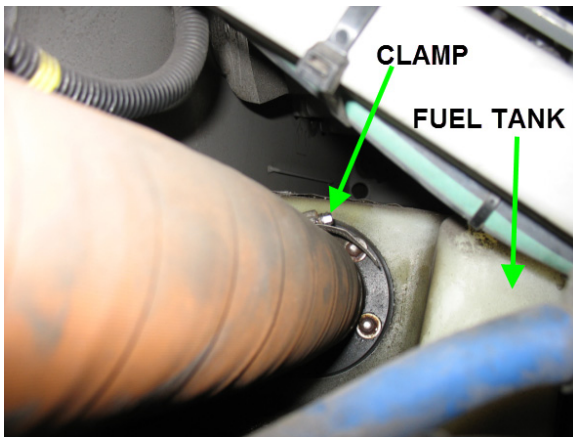
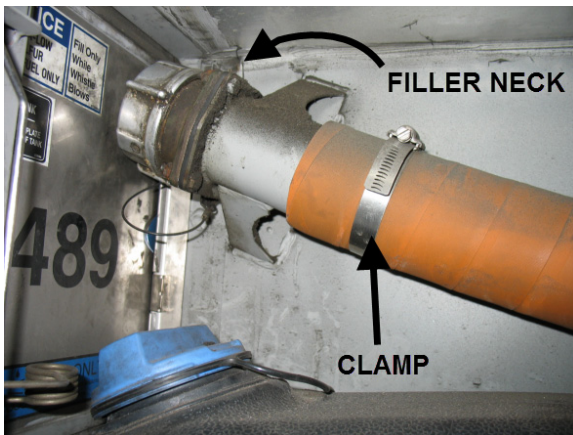

FIGURE 1
FIGURE 2
- a) Unscrew clamps retaining R.H. side filler tube to fuel tank (fig.1) and filler neck (fig.2). Disconnect tube and remove it.